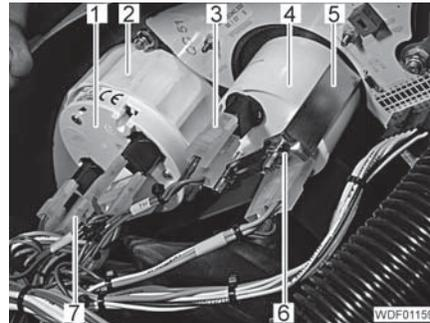

Fig. 455 Instruments attachment
- Remove the plugs (Fig. 455,7).
- Unscrew the nut (Fig. 455,2).
- Carefully push the engine-hour indicator (Fig. 455,1) to the front side and out of the instrument panel.
- Carefully insert the new engine-hour indicator (Fig. 455,1) into the instrument panel from the front side.
- Screw the nut (Fig. 455,2) onto the engine-hour indicator.
- Tighten the nut (Fig. 455,2).
- Attach the connector (Fig. 455,7) onto the engine-hour indicator.